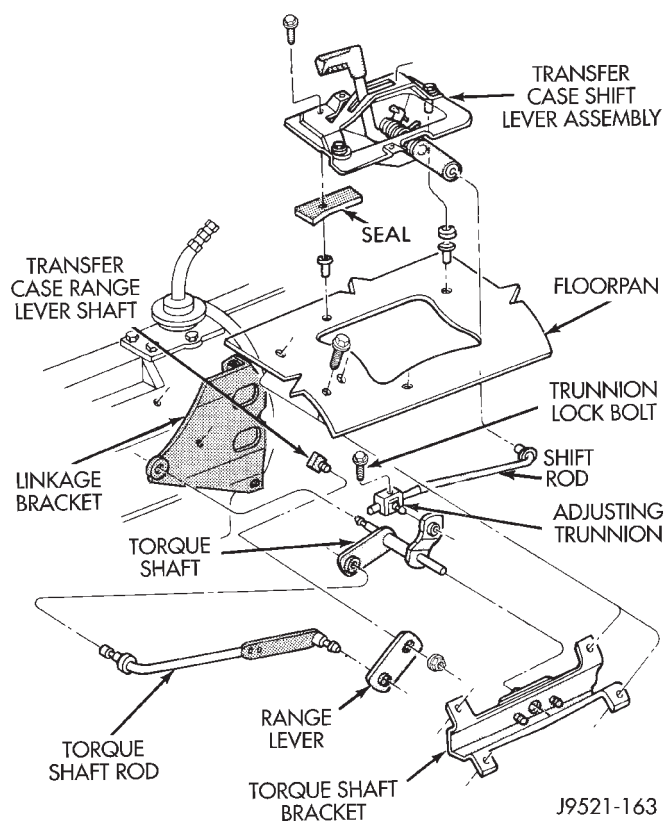

Fig. 3 Shift Linkage
- (1) Shift transfer case into 4L.
- (2) Raise vehicle.
- (3) Loosen adjusting trunnion locknut and slide shift rod out of trunnion (Fig. 3). If rod lacks enough travel to come out of trunnion, push trunnion out of torque shaft.
- (4) Lower vehicle.
- (5) Remove console. Refer to park brake section in Group 5 for procedures.
- (6) Remove screws attaching lever assembly to floorpan and remove assembly and shift rod (if left attached).